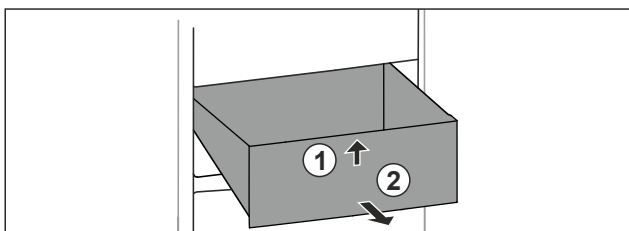

Fig. 101
- ▶ Lift up drawer at the front. Fig. 101 (1).
- ▶ Remove drawer to the front. Fig. 101 (2).